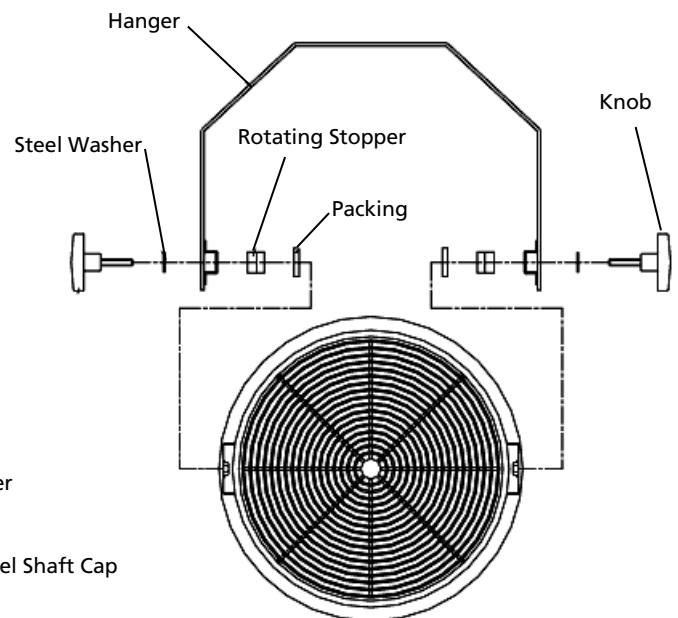

Figure 3 – Features
The Dayton portable electric heaters come mounted on a two wheeled tilt cart assembly, which can be moved around on its cart. The heater housing can be tilted to direct the air flow to any desired location. The features of the Dayton portable electric heaters are shown in Figure 3 on page 3.
Re-install the hardware as shown in Figure 3, and fasten securely.
Install side rotating stop over bolts and into curved slots as shown in Figure 3, on each side of the heater.
Assemble hanger to heater as per Figure 3. This step requires no tools.
- The rotating stoppers shown in Figure 3 **MUST** be used.